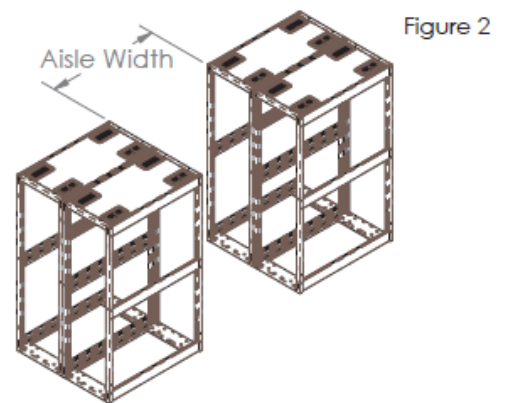

Figure 2
1. Confirm cabinet aisle width shown in Figure 2 is compatible with the EOR panel assembly (14625-XXX).